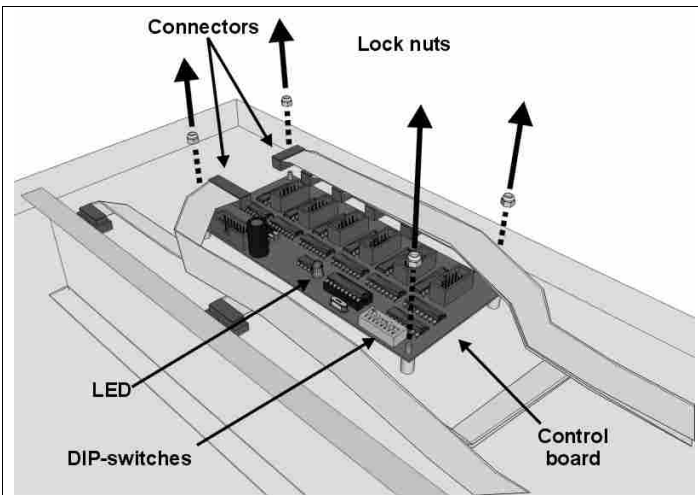

Fig. 18: Replacing a control board
2. Change the connection cable between the LED display board and the control board (Fig. 18).
- b) identify the control board connected to the group of malfunctioning LED display boards via the 10-way flat cables (Fig. 18). When supplying power to the panel, if the LED on that control board (Fig. 18) is illuminated or flashing, then replace the control board (chapter 7.2); otherwise, if the LED is not illuminated, proceed as follows:
6. Identify the control board(s) housed inside of the support structure (Fig. 18); the malfunctioning LED display boards are connected to this control board. Keeping in mind their original positions, remove all the connectors from the control board.
7. With a 5.5 mm wrench, unscrew the 4 end nuts from the control board (Fig. 18) and remove the control board from its casing.